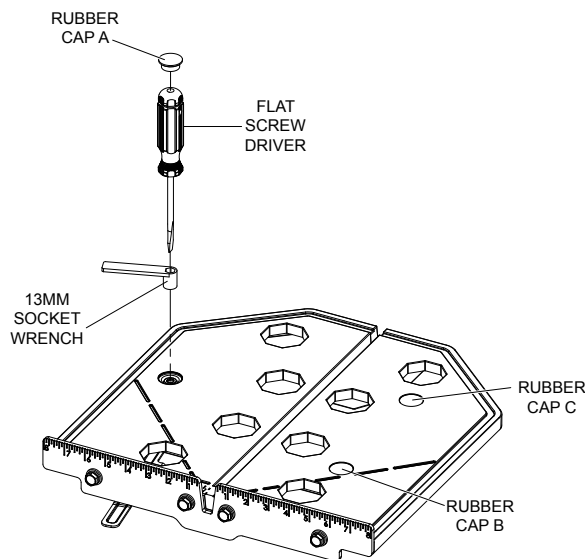
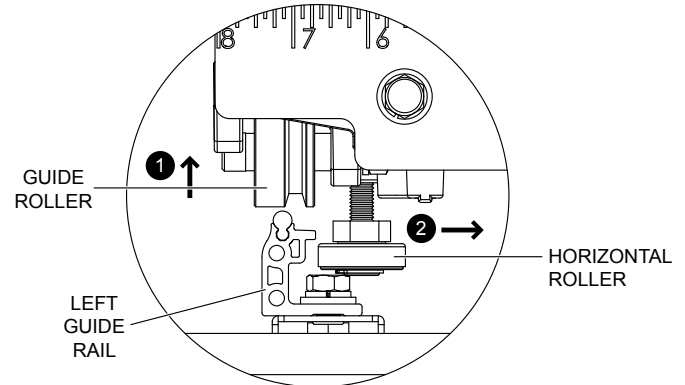

Figure 24. Lowering Roller
Figure 25. Remove Table
2. Remove rubber cap A on the left side of the table. Loosen the exposed lock nut using a 13mm socket wrench. Use a flat screwdriver to turn the shaft of the roller clockwise to lower it by approximately 3/8 in. (9.5 mm). See Figure 24. Evenly lift up the table to disengage the guide rollers from the left guide rail. Once the guide rollers are clear, shift the table to the right to clear the left horizontal roller of the rail. Remove the table from the guide rails. See Figure 25.
1. Remove rubber caps B and C on the right side of the table. Loosen the exposed lock nuts using a socket wrench. Next, use a flat screwdriver to turn the shaft of the rollers clockwise. See Figure 24. This will lower the horizontal rollers to allow room for adjusting the flat rollers.